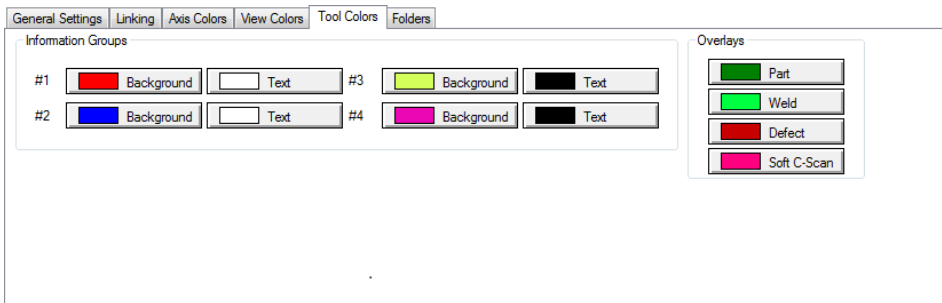

Figure 4-53 The Tool Colors tab of the Preferences dialog box
2. In the **Preferences** dialog box, select the **Tool Colors** tab (see Figure 4-53 on page 280).